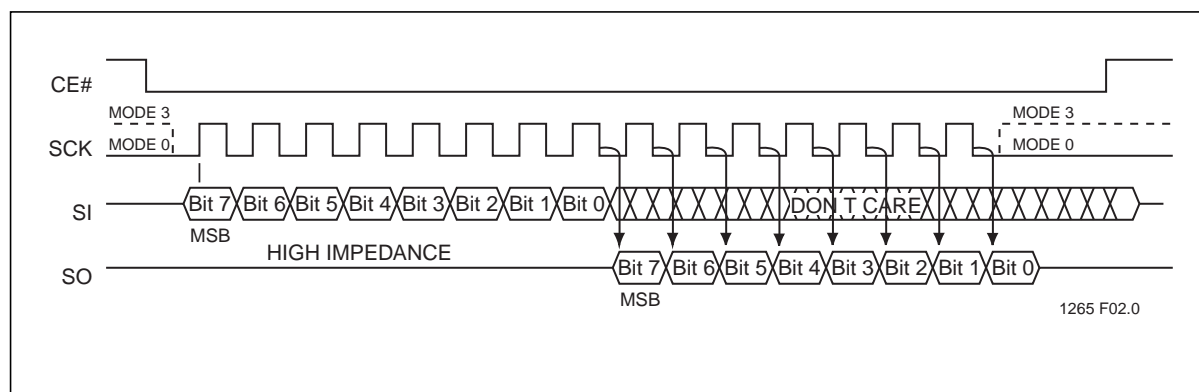

Figure 2: SPI Protocol
The SST25VF010A supports both Mode 0 (0,0) and Mode 3 (1,1) of SPI bus operations. The difference between the two modes, as shown in Figure 2, is the state of the SCK signal when the bus master is in Stand-by mode and no data is being transferred. The SCK signal is low for Mode 0 and SCK signal is high for Mode 3. For both modes, the Serial Data In (SI) is sampled at the rising edge of the SCK clock signal and the Serial Data Output (SO) is driven after the falling edge of the SCK clock signal.